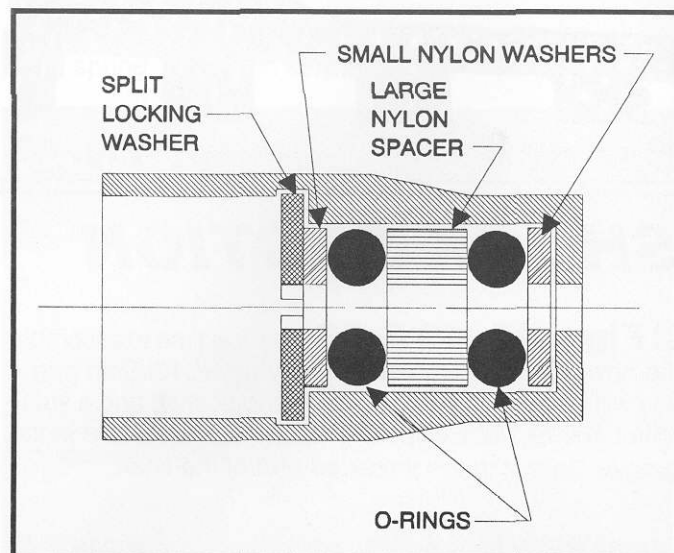
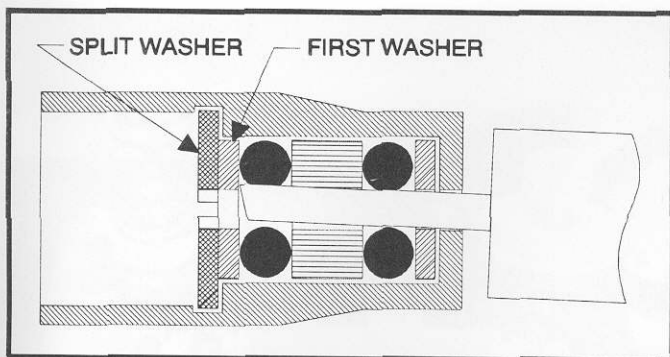

Fig. 57
Fig. 58
(1) Stand the assembly tool on end with the small tip up. Install the parts on the tool in the following order: (2) the nylon split locking washer, (3) then one small nylon washer, (4) red O-ring, (5) large nylon spacer, (6) red O-ring, and (7) second small nylon washer. You can compare this sequence with the layout in fig. 56. Fig. 57 shows a cutaway drawing of the shock body with the internal seal parts installed. You can purchase the red and black O-rings separately under part numbers #5407 (eight red O-rings) or #6469 (four black O-rings).
❑ **Figs. 57 & 58 HOW TO DISMANTLE THE SHOCK SEAL PARTS.** Fig. 57 shows a cutaway of the bottom portion of the shock showing how all of the parts fit into the shock seal cavity. Fig. 58 depicts the shock assembly tool removing the shock seal parts.